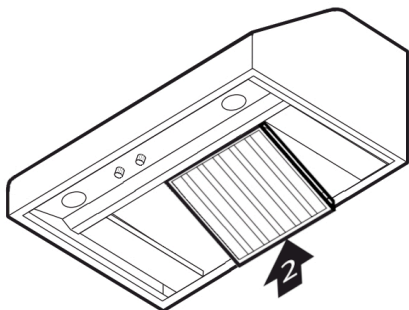

FIGURE 17: INSTALL THE STAINLESS STEEL BAFFLES – PART B
- b. Bring up the rear edge of baffle until it clears the back edge of hood (FIGURE 17).